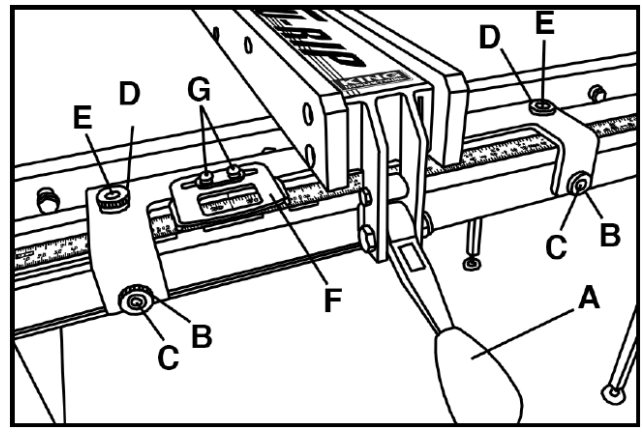
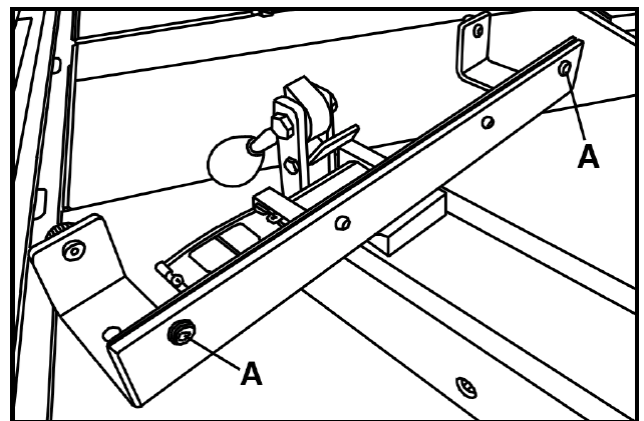

Fig.22
Fig.23
1. The rip fence must be perfectly aligned with the table T-slot, to verify this, align the edge of the rip fence with the table T-slot and lower the locking lever (A) **Fig.22** to lock in into place. Check to see if the edge of the rip fence and the table T-slot are parallel. If they are not parallel, unlock the rip fence and turn it upside down. Adjust the set screws (A) as **Fig.23** in or out, verify your adjustment, repeat if necessary.
2. The lock lever pressure can be adjusted by loosening the front lock nuts (B) as **Fig.22** and adjusting the set screws (C) the same amount, make sure the fence remains parallel with the table T-slot. Retighten lock nuts.
3. To set the fence perpendicular to the table, place a square on the table and against the side of the fence, loosen the top lock nuts (D) and adjust the setscrews (E) until the fence is perpendicular. Retighten lock nuts.
4. The pointer window (F) as **Fig.22** position can be adjusted if needed, loosen pan head screws (G), reposition the pointer window and retighten pan head screws.